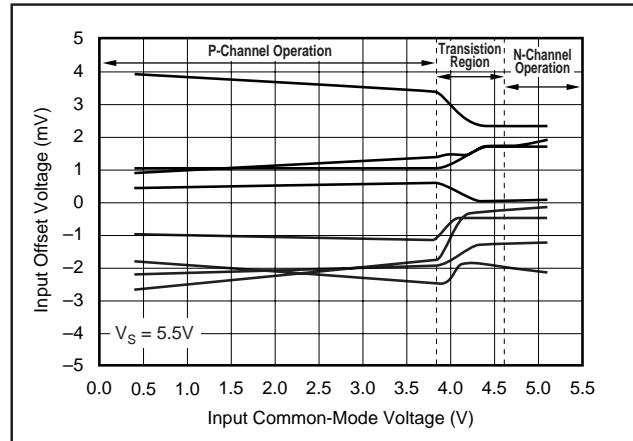
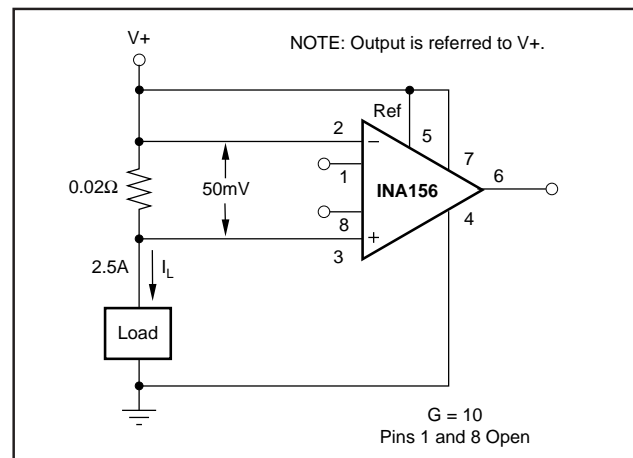

FIGURE 6. Input Offset Voltage Changes with Common-Mode Voltage.
FIGURE 7. Single-Supply, High-Side Current Monitor.
NOTES: (1) For further information, refer to typical performance curves on common-mode input range. (2) Operation beyond (V+) - 1.8V (max) results in reduced common-mode rejection. See discussion and Figure 6 in the text of this data sheet. (3) Does not include error and TCR of additional optional gain-setting resistor in series with  $R_G$ , if used.
The internal amplifiers have rail-to-rail input stages, achieved by using complementary n-channel and p-channel input pairs. The common-mode input voltage determines whether the p-channel or the n-channel input stage is operating. The transition between the input stages is gradual and occurs between  $(V+) - 1.8V$  to  $(V+) - 1V$ . Due to these characteristics, operating the INA156 with input voltages within the transition region of  $(V+) - 1.8V$  to  $(V+) - 0.8V$  results in a shift in input offset voltage, and reduced common-mode and power supply rejection performance. Typical patterns of the offset voltage change throughout the input common-mode range are illustrated in Figure 6. The INA156 can be operated below or above the transition region with excellent results. Figure 7 demonstrates the use of the INA156 in a single-supply, high-side current monitor. In this application, the INA156 is operated above the transition region.